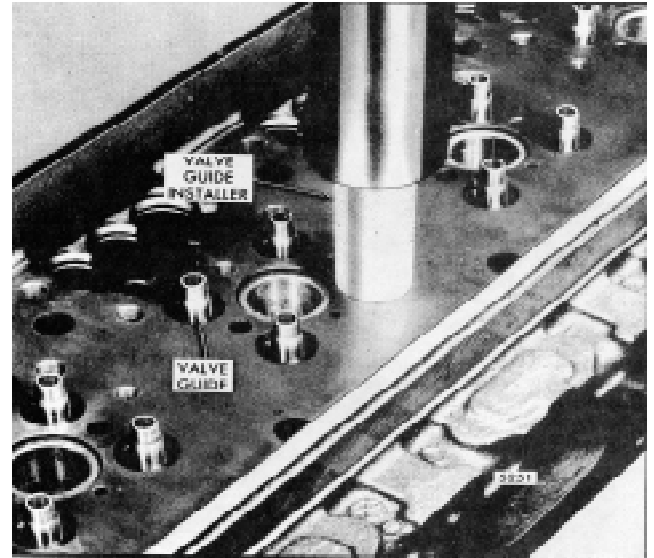

Fig. 8 - Installing Valve Guide
- Position the valve guide squarely in the bore in the cylinder head and press the installing tool gently to start the guide in place (Fig. 8). Then, press the guide in until the tool contacts the cylinder head.